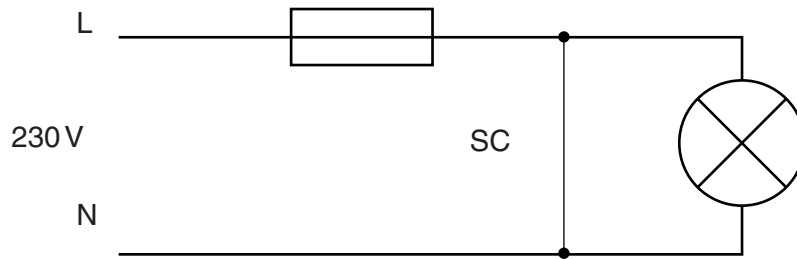

Fig. 6
- 4 Fig. 6 shows a lighting circuit which has been short circuited (SC) between the live and neutral wires.